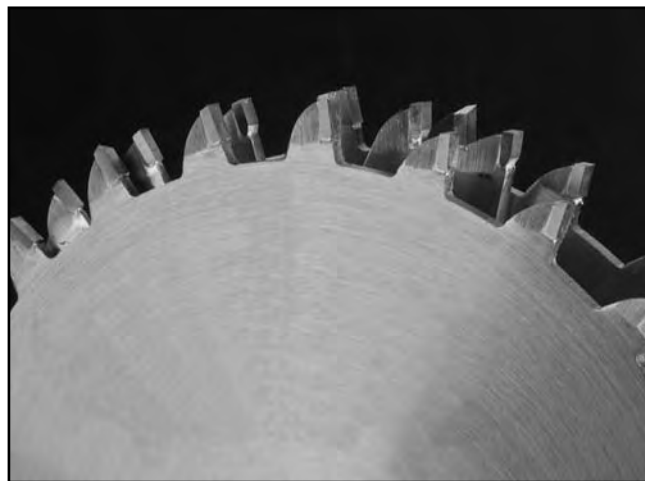

Figure 29. Optional dado blade.
- **Stacked Dado Blade**—These dedicated dado cutting blades consist of a set of up to 8 individual blades. Multiple cutters are "stacked" between two outside blades. The width of the dado is determined by the combination of cutters that are "stacked" together. The dado is cut in a single pass leaving a smooth and square channel in the face of the workpiece as shown on **Page 32**. Stacked dado blades are the most expensive option but are worth considering if your projects require a lot of visible dado cuts. A typical stacked dado blade is shown in **Figure 29**.
Commonly used in furniture joinery, a rabbet is a straight groove cut in the edge of the workpiece. Rabbets can be cut using either a dado blade (Figure 29) or a standard saw blade.